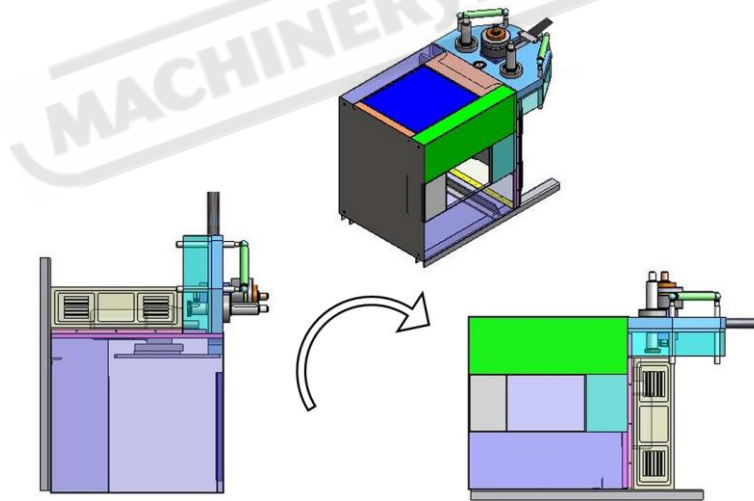

Figure 2
- When you are satisfied that you have lifted the machine to the degree that only the corner shown by ② in figure 2 touches to the floor, rotate the machine right slowly with the help of a person so that the mass center of the machine tend to be at the right side of that corner.